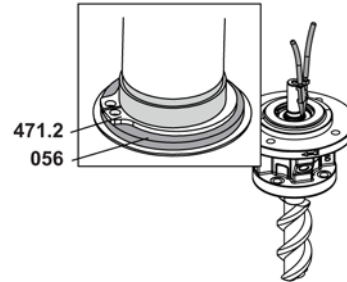

Fig. 20
3. Remove the circlip 471.2, remove the supporting ring 056, see Fig. 20.